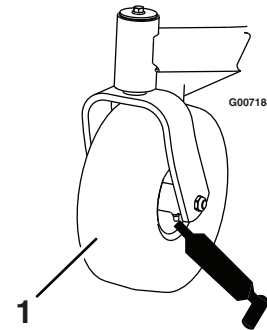
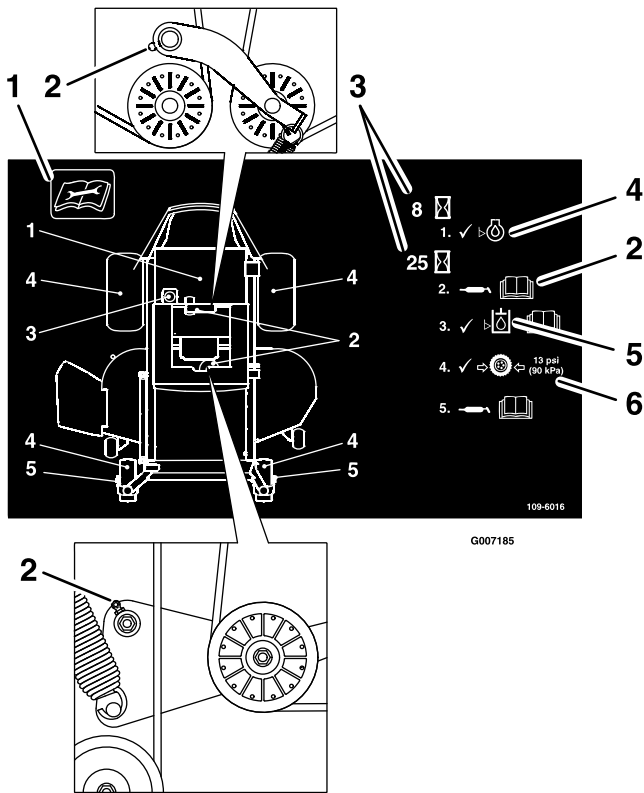

Figure 28
Figure 29
Grease the front caster pivots and wheels (Figure 28).
3. Clean the grease fittings (Figure 28 and Figure 29) with a rag. Make sure to scrape any paint off of the front of the fitting(s).
4. Connect a grease gun to each fitting (Figure 28 and Figure 29). Pump grease into the fittings until grease begins to ooze out of the bearings.